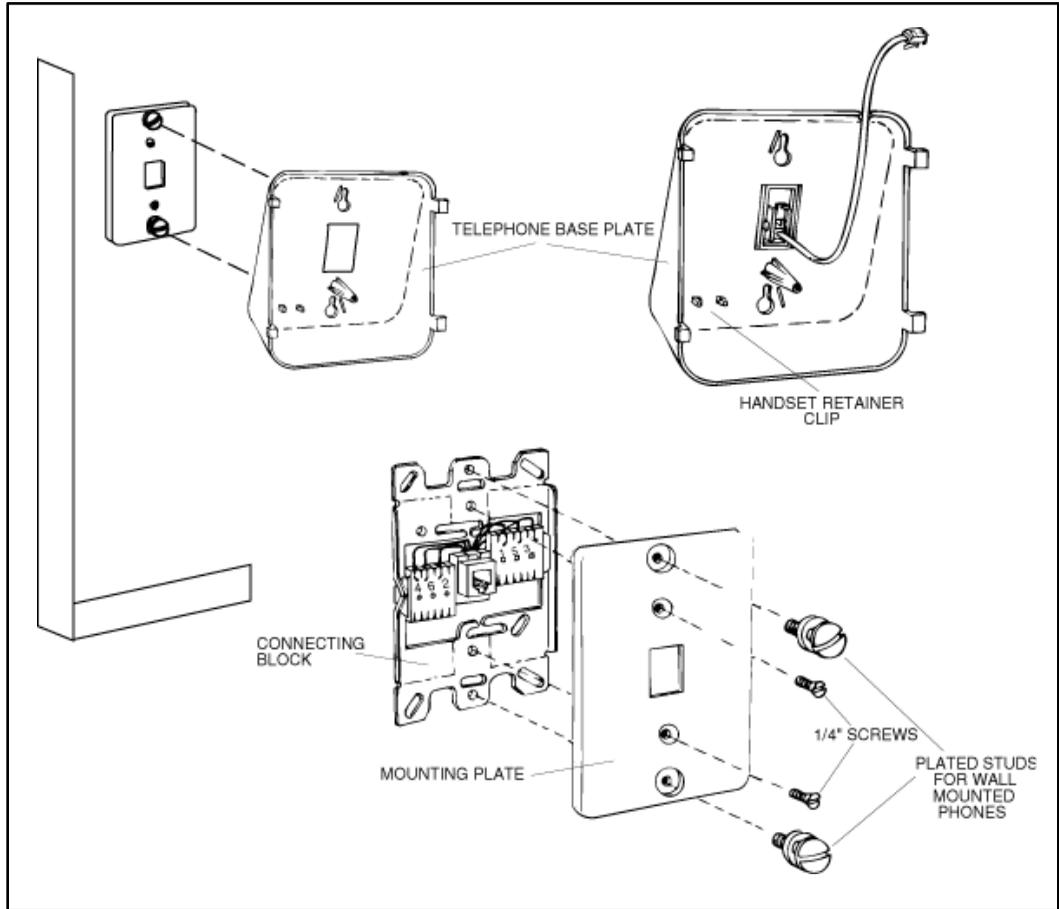
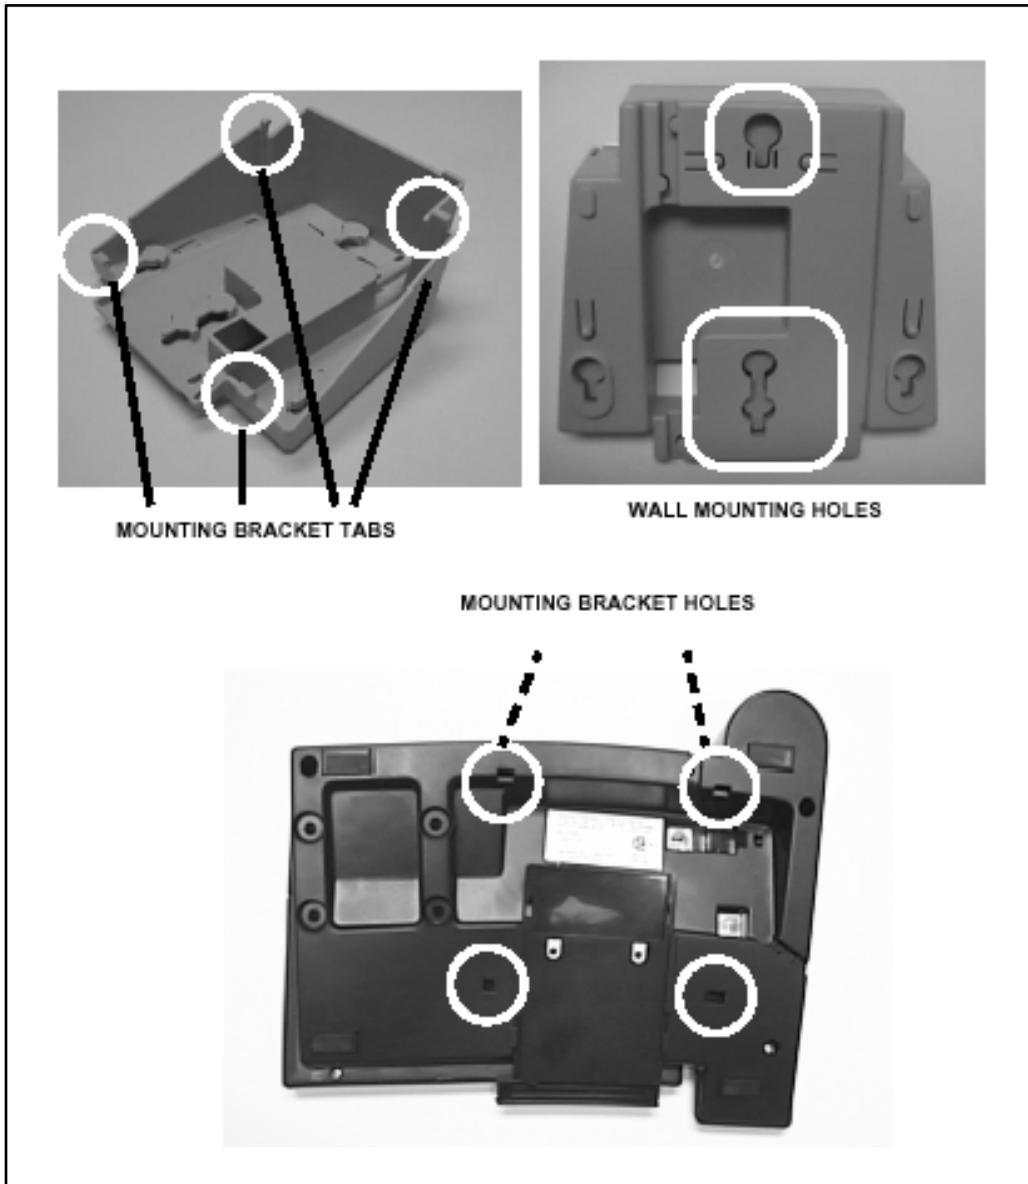

Figure 2-33: Electronic Key Telephone Wall Mounting
Figure 2-34: Digital Key Telephone Wall Mounting
6. Now match the two key hole slots on the baseplate with the lugs on the 630-A type jack. Align the modular connector and slide telephone into place. Refer to Figure 2-33.
To wall mount the Digital Key Telephone, it is necessary to use the Wall Mount bracket and one standard-type jack assembly designed for normal wall hanging applications. Refer to Figure 2-33 and Figure 2-34.
5. Place the handset onto the retainer. The telephone is now ready for use. Refer to Figure 2-34 for location of mounting information.